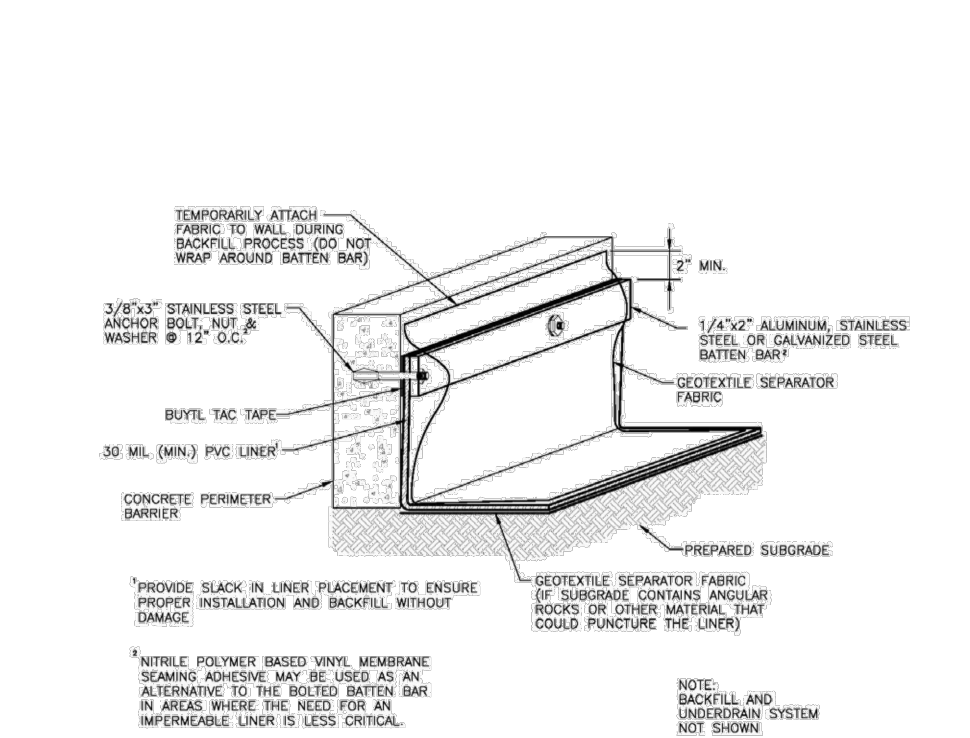

Figure PPS-5. Geomembrane Liner/Concrete Connection Detail
7. **Impermeable Geomembrane Liner and Geotextile Separator Fabric:** For no-infiltration sections, install a 30 mil (minimum) PVC geomembrane liner, per Table PPS-4, on the bottom and sides of the basin, extending up at least to the top of the filter layer. Provide at least 9 inches (12 inches if possible) of cover over the membrane where it is attached to the wall to protect the membrane from UV deterioration. The geomembrane should be field-seamed using a dual track welder, which allows for non-destructive testing of almost all field seams. A small amount of single track and/or adhesive seaming should be allowed in limited areas to seam around pipe perforations, to patch seams removed for destructive seam testing, and for limited repairs. The liner should be installed with slack to prevent tearing due to backfill, compaction, and settling. Place CDOT Class B geotextile separator fabric, per Table PPS-3, above the geomembrane to protect it from being punctured during the placement of the filter material above the liner. If the subgrade contains angular rocks or other material that could puncture the geomembrane, smooth-roll the surface to create a suitable surface. If smooth-rolling the surface does not provide a suitable surface, also place the separator fabric between the geomembrane and the underlying subgrade. This should only be done when necessary because fabric placed under the geomembrane can increase seepage losses through pinholes or other geomembrane defects. Connect the geomembrane to perimeter concrete walls around the basin perimeter, creating a watertight seal between the geomembrane and the walls using a continuous batter bar and anchor connection (see Figure PPS-5). Where the need for the impermeable